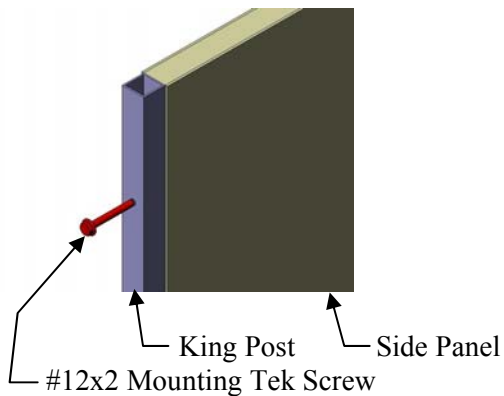
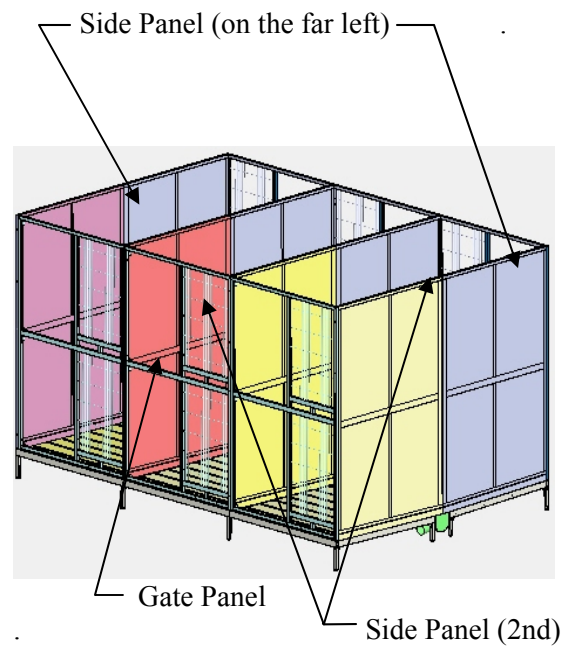

Figure 13
Figure 21A
1. Attach a King Post to the first Side Panel on the far left using 2" Self-Drilling Tek Screws through the pre-drilled holes (**Figure 13**). The King Post should always mount to the short front end of the Side Panel.
Note: From Second Kennel on, the Gate Panels will attach to the preceding Kennels' Gate Panel. Build both sides of kennel bank to look like (**Figure 21A**).
Continue to build your Quad kennel bank on the other side per your Custom Shop Drawings using (**Figure 13 thru Figure 21A**).